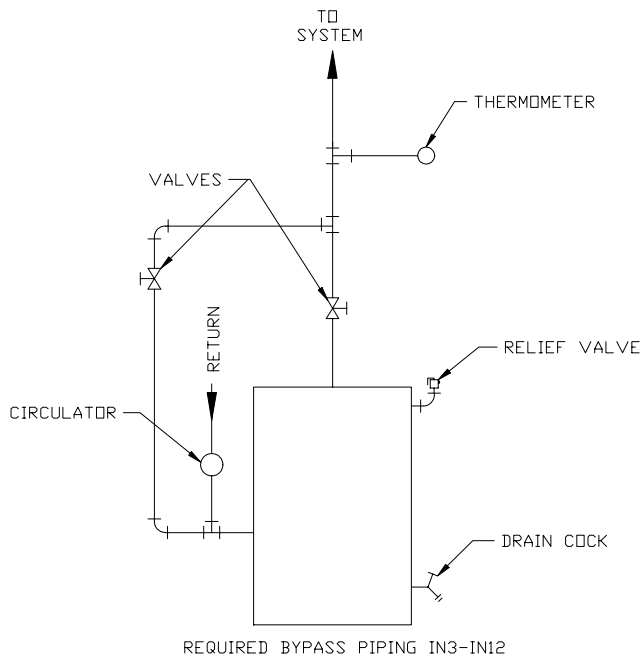

Figure 27: Required Bypass Piping
- a. Remove circulator and install tee between circulator and boiler return along with second tee in supply piping as shown in Figure 27. Bypass should be same size as supply and return lines with valves located in bypass and supply outlet as illustrated in Figure 27 in order to regulate water flow to maintain higher boiler water temperatures.